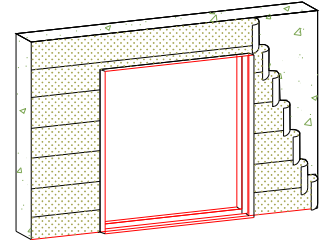

Figure 10
D. Weather resistant building paper should be applied in a weatherboard fashion to complete the installation. (See Fig. 10)